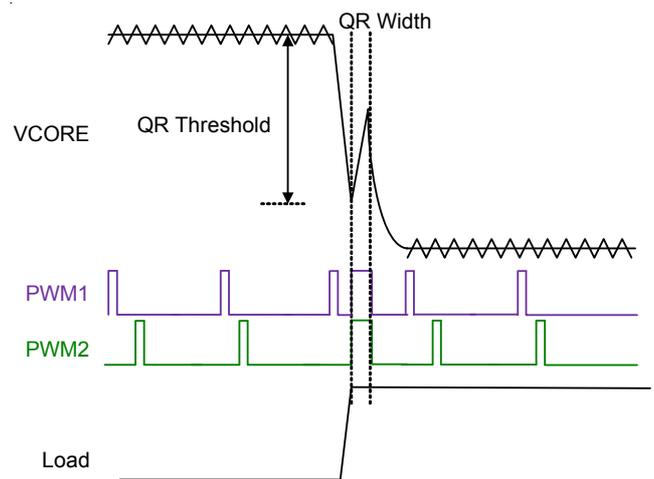
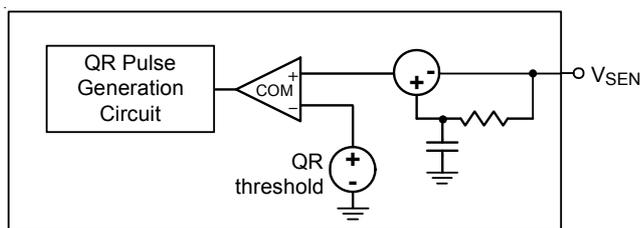

Figure 22. Quick Response Mechanism
Figure 23. Simplified QR Trigger schematic
When the transient load step-up becomes quite large, it is difficult for loop response to meet the energy transfer. Hence, that output voltage generate undershoot to fail specification. The RT3601EA has Quick Response (QR) mechanism being able to improve this issue. It adopts a nonlinear control mechanism which can disable interleaving function and simultaneously turn on all UGATE one pulse at instantaneous step-up transient load to restrain the output voltage drooping. Figure 22 shows the QR behavior.
The output voltage signal behavior needs to be detected so that QR mechanism can be triggered. The output voltage signal is via a remote sense line to connect at the VSEN pin which is shown in Figure 23. The QR mechanism needs to set QR width and QR threshold. Both definitions are shown in Figure 22. A proper QR mechanism set can meet different applications. The SET3 pin can set QR threshold and QR width by an external voltage divider with the multi-function mechanism. Table 6 shows the QR_TH and QR_WIDTH on the SET3 pin.